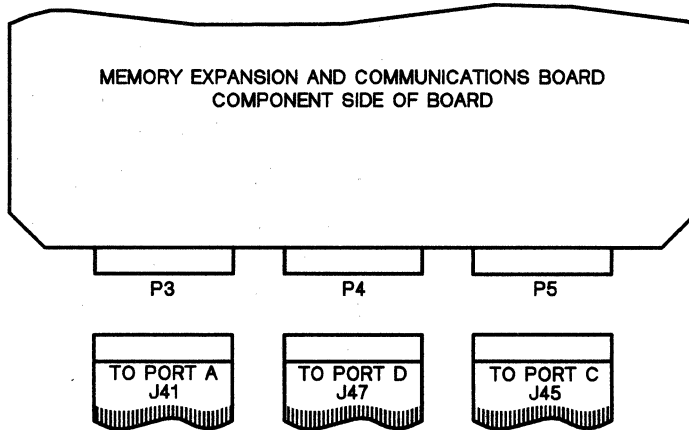

Figure 9-10. Communications Cable Connections
- 2) Connect J41, J45, and J47 (Figure 9-10). Note that colored stripe indicates pin 1.